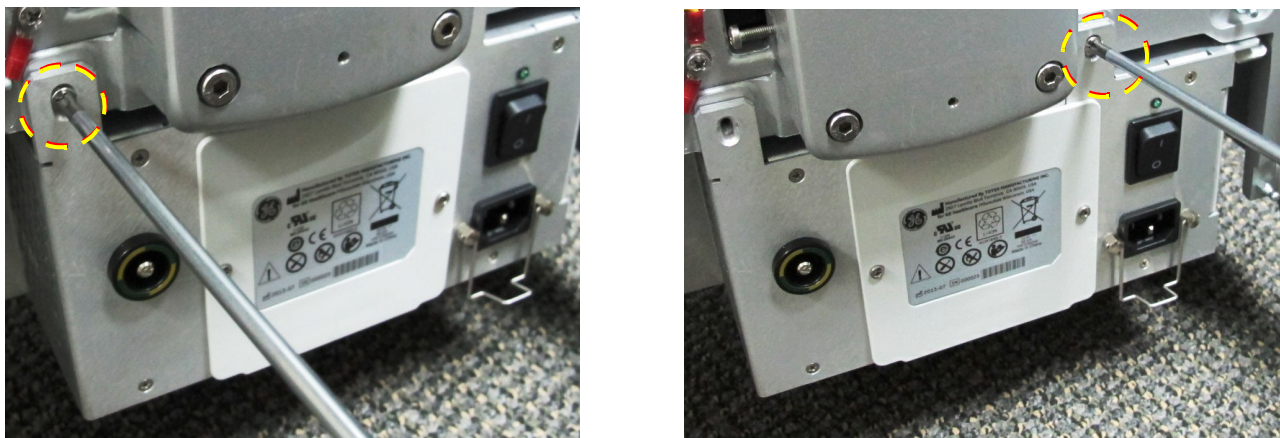

Figure 8-200 AC Box Supporting Screws
- 5.) To remove the AC Box, unscrew the two supporting screws (shown in Figure 8-200 below).